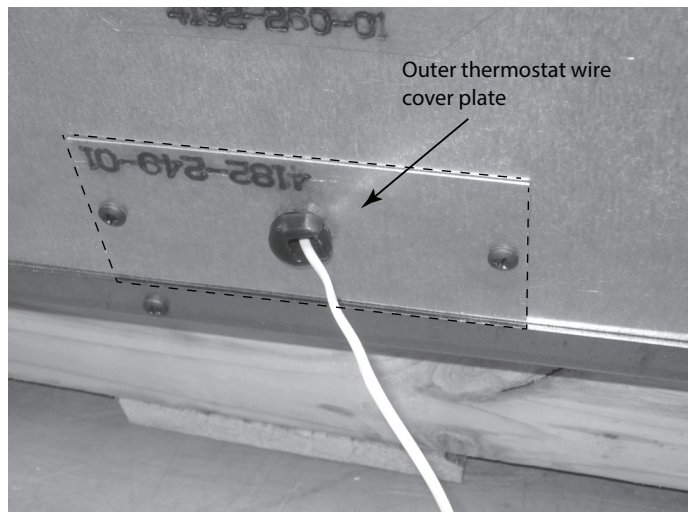

Figure 3.8
- Using the strain relief, place the thermostat wire in it making sure that there is plenty of wire length into the terminal block. Close the strain relief and push it into the hole. See Figure 3.8.